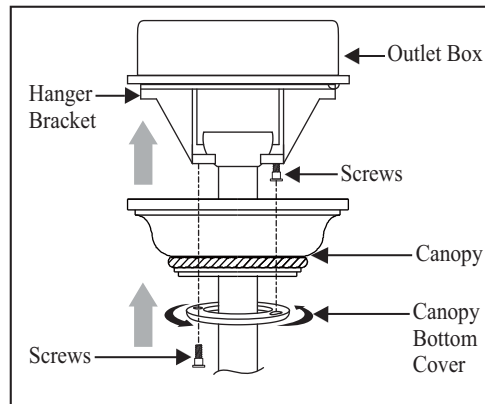

Figure 15
2. Slide the canopy up to hanger bracket and place the key hole on the canopy over the screw on the hanger bracket, turn canopy until it locks in place at the narrow section of the key holes. (Fig. 15)